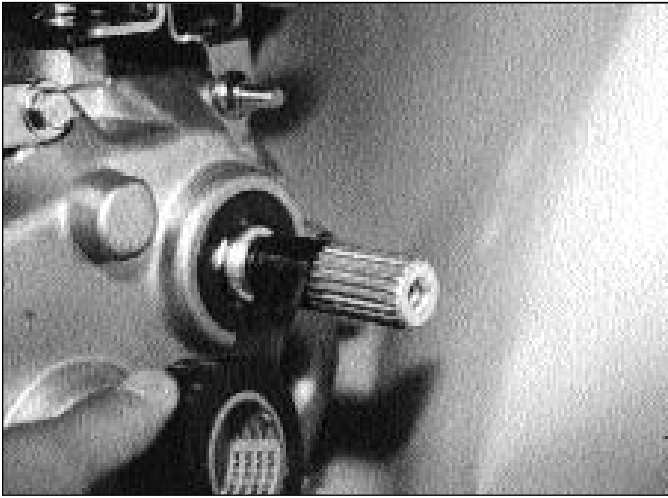

Figure 21 - Protect Shaft
3. Wind vinyl tape on the splined portion of the input shaft to protect the seal lip. See Figure 21.